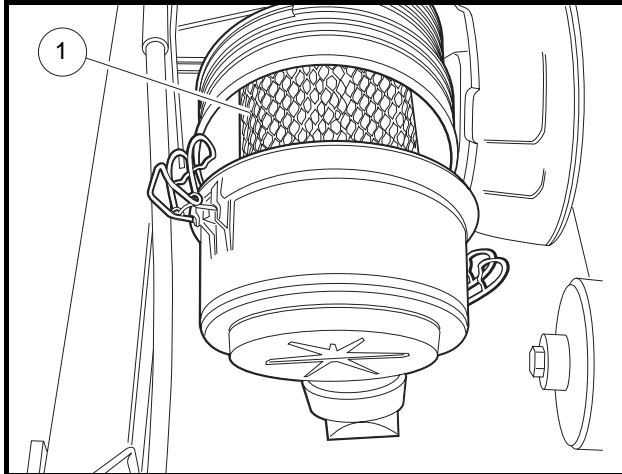

Figure 32 Air Filter Cartridge
2. Release both canister tab locks (**Figure 32**).
4. Remove the air filter cartridge (1). **See following NOTE.**